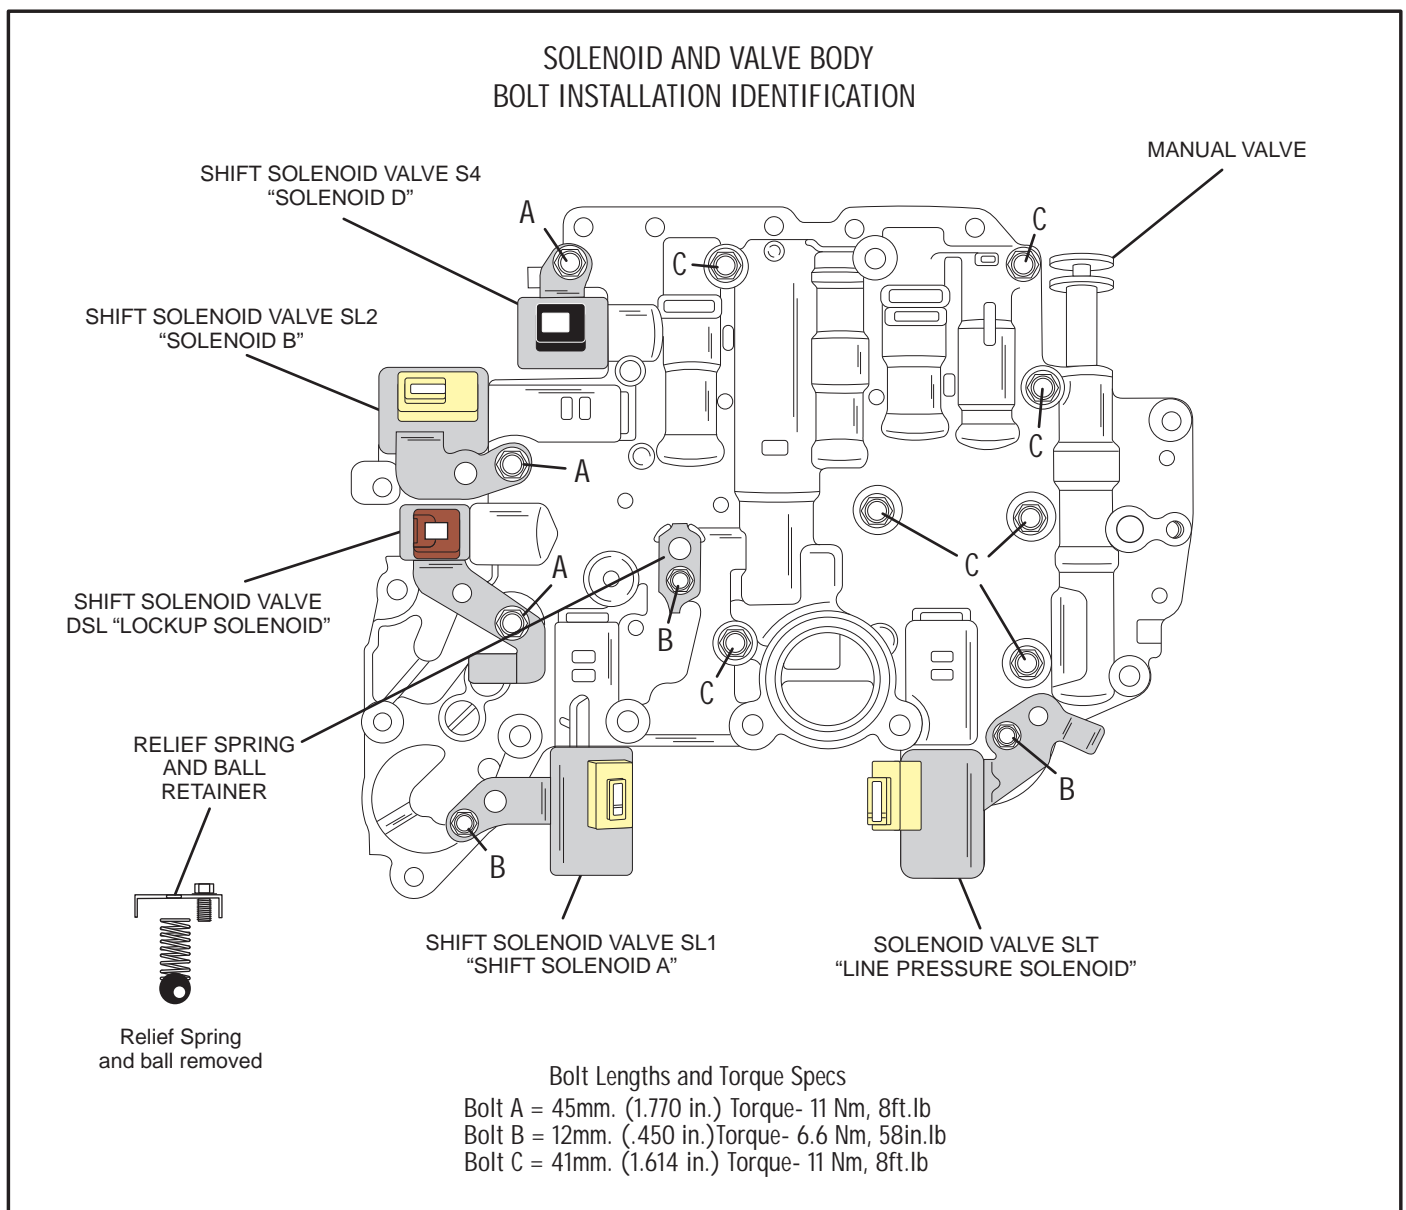

Figure 142
49. Install the seven 10 mm bolts identified with the letter "C," and torque to **11Nm, 8ft.lb.** See Figure 142.
50. Install the S4, SL2 and DSL solenoids into their bores, and install the bolts identified with the letter "A," and torque to **11Nm, 8ft.lb.** as shown in Figure 142.
51. Install the SL1 and SLT solenoids into their bores, and the two, 8 mm bolts identified with the letter "B," and torque to **6.6 Nm, 58 in.lb.** as shown in Figure 142.
52. Install relief ball into the valve body then install the spring, retainer and bolt identified with the letter "B" and torque to **6.6 Nm, 8ft.lb.** as shown in Figure 142.
53. Install the Manual valve as shown in Figure 142.